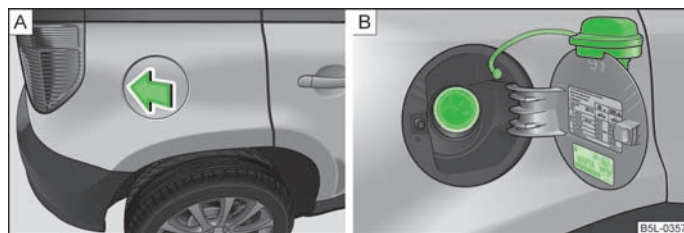

Fig. 140 Right rear side of the vehicle: Open fuel filler flap/fuel filler flap with cap unscrewed
The correct type of fuel for your vehicle and the tyre size and inflation pressure are specified on the inside of the fuel filler flap » Fig. 140 - B.
- Press in the middle of the left area of the fuel filler flap » Fig. 140 - A.
- Unscrew the filler cap by turning it to the left and place the cap onto the top of the fuel filler flap » Fig. 140 - B.